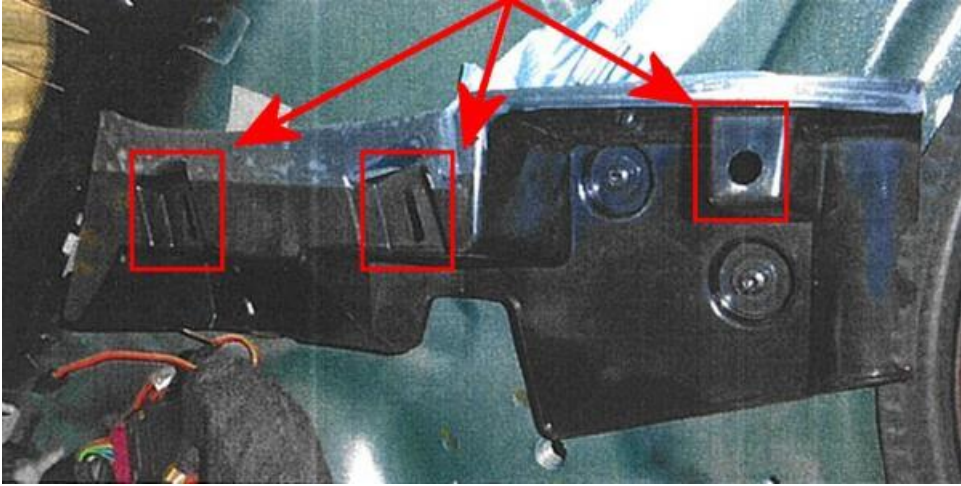

Figure 3
- 4) Referring to Figure 3 - Ensure that the clips and apertures (highlighted in red boxes) are not blocked by the anti-squeak tape. If they are blocked on initial fixing of the tape, adjust/cut the tape as required to ensure the holes are free